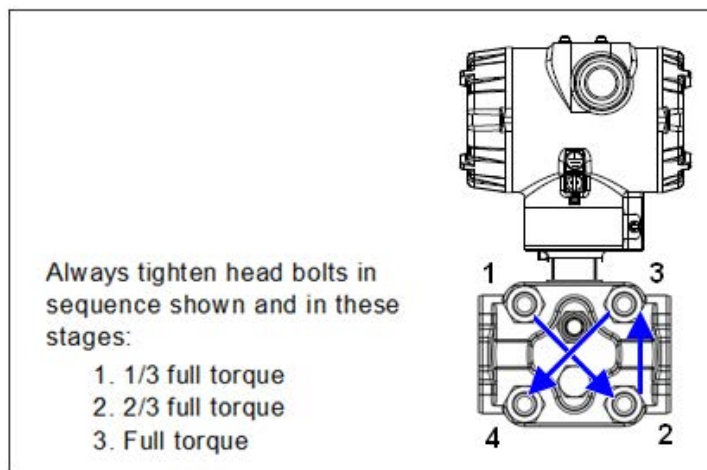

Figure 27 – Head Bolt Tightening Sequence
16. Use a torque wrench to gradually tighten nuts to torque rating in sequence shown in Figure 27. Tighten head bolts in stages of 1/3 full torque, 2/3 full torque, and then full torque.